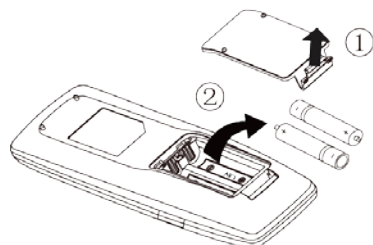

Fig.22
(1) Lift the cover along the direction of arrow (as shown in Fig 22①).
(2) Take out the original batteries (as shown in Fig 22②).